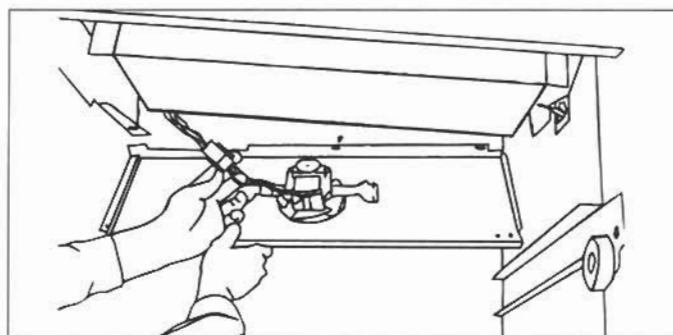

Figure 2-29. Model 511, 550 Freezer Assy.
2. Remove the mounting screws at the left side of the fan shroud. Tilt the front edge of the assembly down and disconnect the fan motor wiring from the wire harness (Figure 2-29).